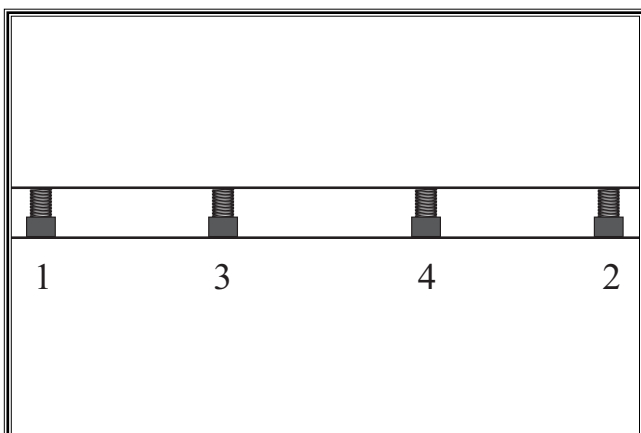

Figure 23. Gib bolt tightening sequence.
7. Start at the beginning knife and slightly tighten each gib bolt on each knife in the sequence shown in **Figure 23**. Repeat this step two or three times until all gib bolts are completely tight.